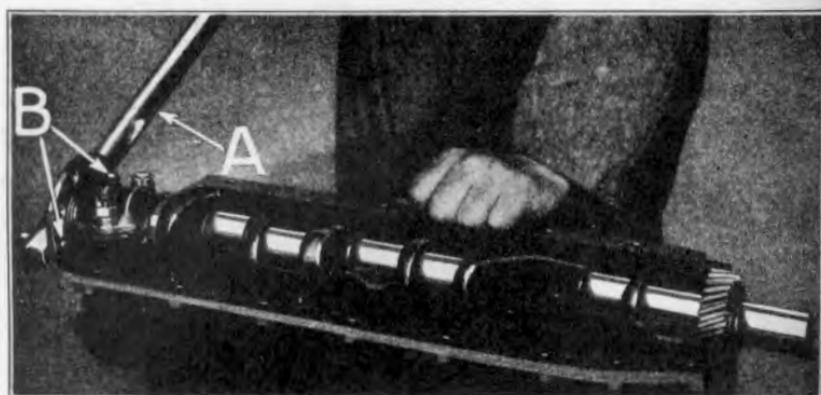

Fig. 170
- 247 Turn crankshaft over with a turning bar (See "A" Fig. 170). The bearing should hold the shaft so that it is necessary to use a turning bar 18" to 20" long in order to turn the shaft. When using a turning bar, make sure both pins in bar are inserted in cap screw holes "B" in flange on crankshaft (not in dowel pins or on the edge of the flange). After crankshaft has been turned over, remove bearing caps and shaft and examine bearing surfaces in cap and cylinder block. The spots, which appear bright, are the high points on the bearing surfaces and these spots should be lightly scraped with a bearing scraper. Crankshaft and bearing cap are then replaced and the above operations repeated until a 65% bearing is obtained on all bearings, after which the bearings are oiled, crankshaft positioned on block, caps replaced and crankshaft bearing bolts and nuts drawn down tightly, the castles on the nuts being lined up so that cotter keys can be inserted through bolts after crankshaft has been run in.